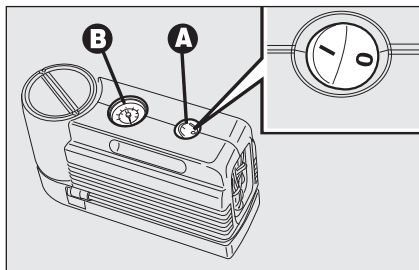
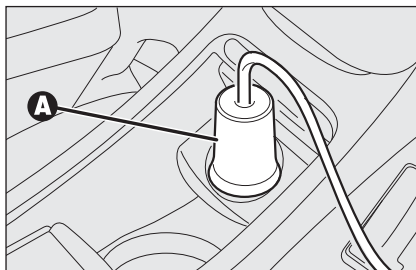

fig. 19
fig. 20
- make sure the compressor switch **A-fig. 19** is set to **0** (off), start the engine and fit plug **A-fig. 20** into the outlet/cigar lighter on the front console and then turn on the compressor by setting switch **A-fig. 19** to **I** (on);
- Inflate the tyre to the pressure specified in paragraph "Wheels" in section "Technical Specifications". Check tyre pressure on gauge **B-fig. 19** with compressor off to obtain precise reading;